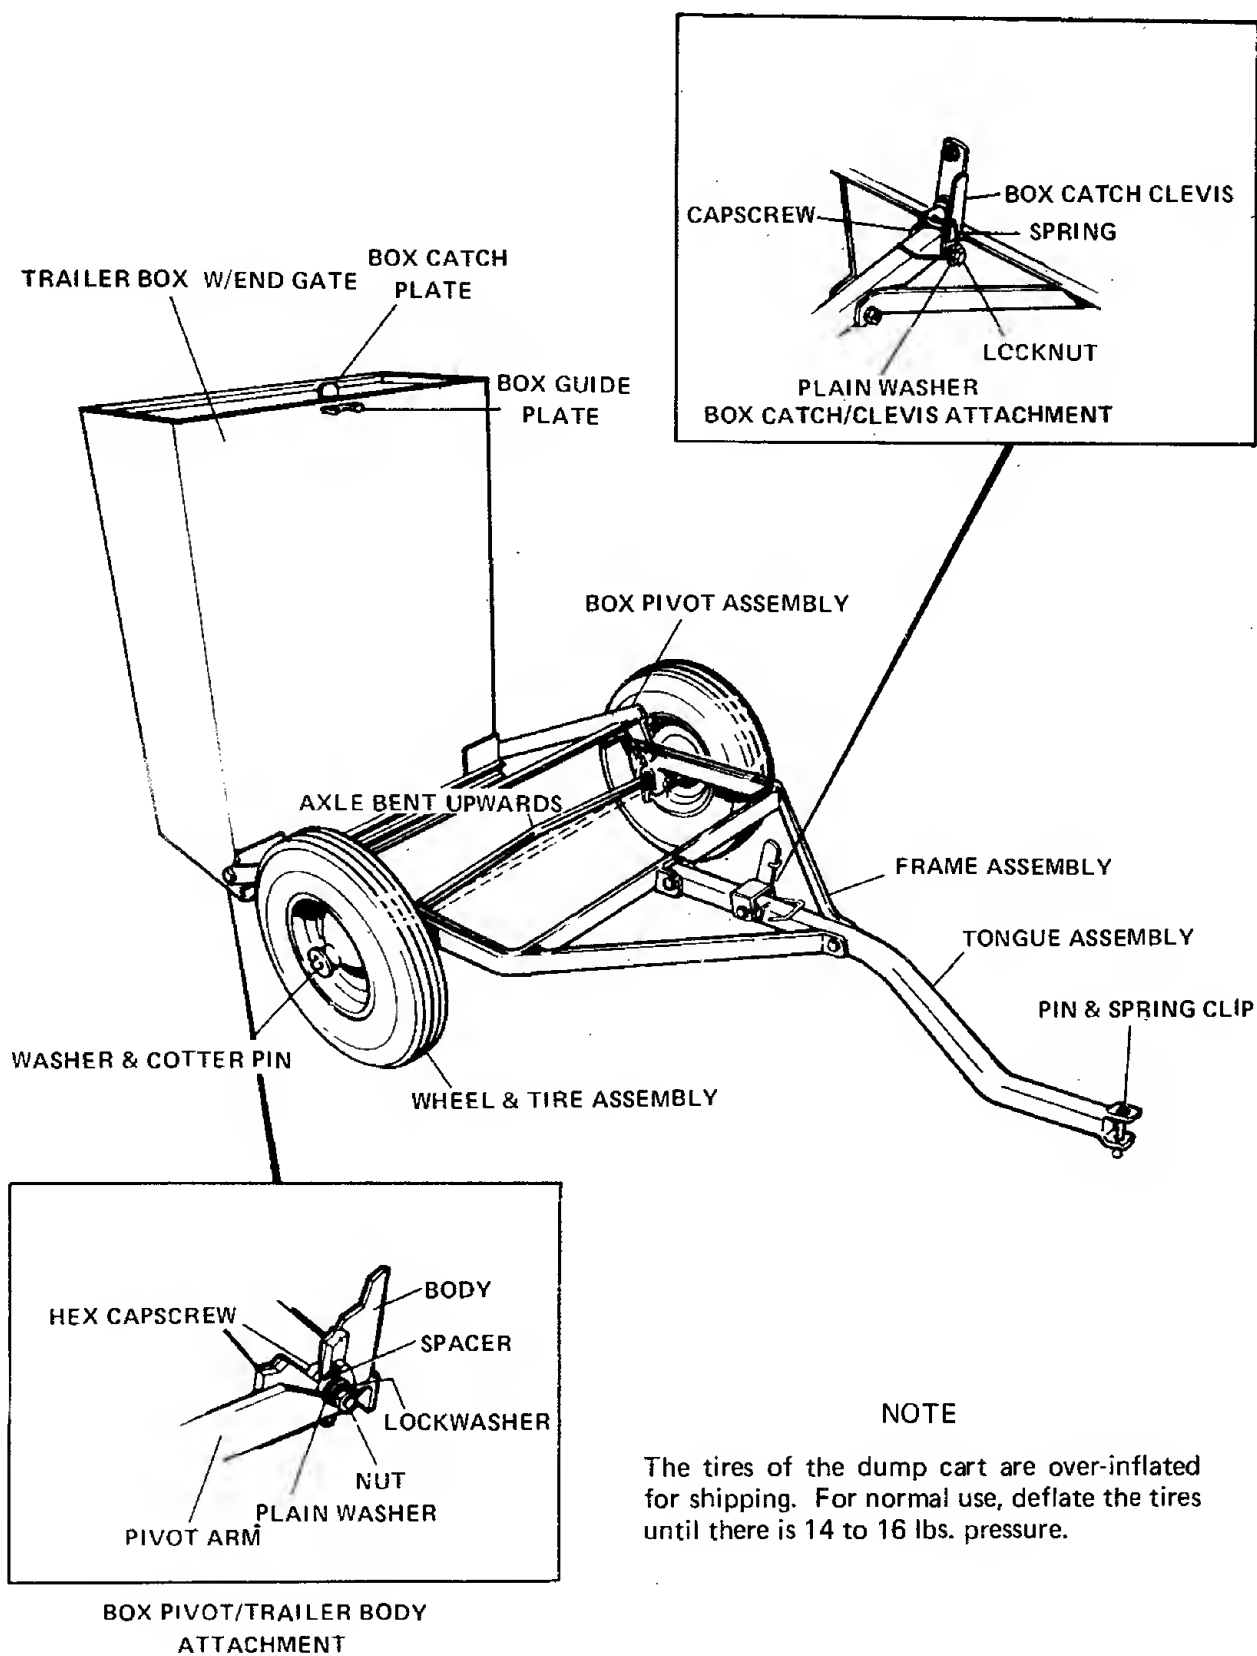

Figure 18. Dump Cart
3. With the bend in the center of the axle facing UP, place the cart frame over the axle so that the U-shaped pads on the axle fit inside the U-shaped brackets on the frame. Attach the axle to the frame with $\frac{5}{16}$ x 1- $\frac{3}{4}$ inch capscrews and locknuts, one through each U-shaped bracket, see figure 18.
4. Attach the cart tongue to the cart frame with the tongue bend sloping downward, that is, the front of the tongue should be lower than the rear. Use two $\frac{3}{8}$ x 2- $\frac{1}{4}$ inch capscrews, lockwashers and nuts (figure 18).
6. Place the dump cart box on its endgate and attach the box to the frame pivot assembly using two $\frac{3}{8}$ x 1 inch capscrews, flat washers, bushing, lockwashers and nuts. Insert the capscrew from the inside of the box. Insert the bushing on the capscrew through the pivot assembly. Place flat washer and lockwasher on the capscrew, and tighten on the nut. (See figure 18.)
7. Attach the box latch clevis to the trailer tongue as shown in figure 18. Insert a $\frac{3}{8}$ x 2- $\frac{3}{4}$ inch capscrew through the clevis and tongue. Place the latch spring on the capscrew, and hook the large end over the tongue, the small end over the latch handle.